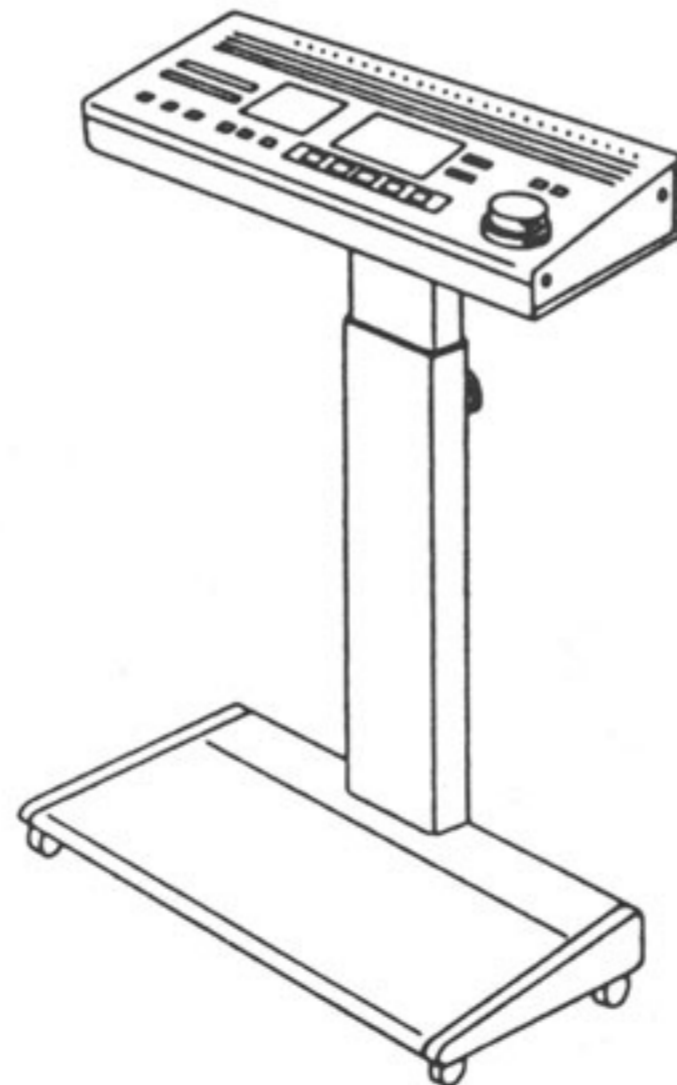

Figure 2-4. Mounting the Remote Control Unit
- STEP 5.** Fasten the Remote Control Unit to the top of the mounting platform, as shown in Figure 2-4, using the four screws removed in STEP 4 and the three 3x8 screws provided.